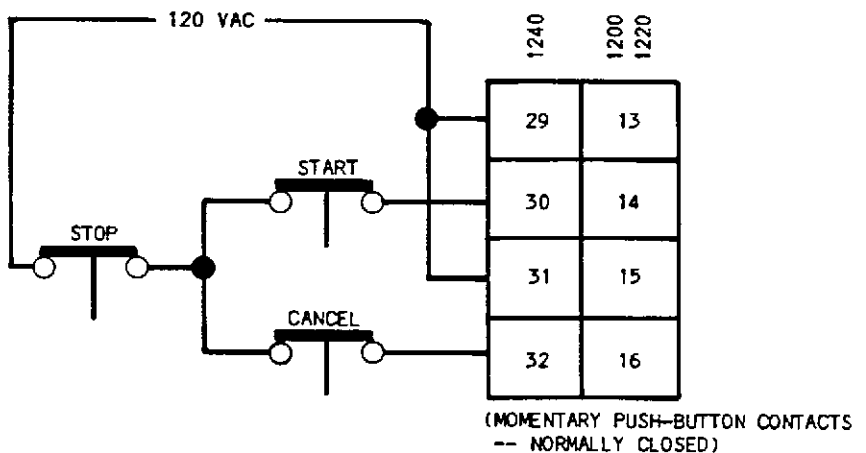

Figure 13. Typical Wiring for Push-button Input Relay (Remote Models Only)
**2** Connect the control cable to the feed valves (or other devices). Refer to Figure 19 for typical wiring of input and output relays. See Appendix B for PLC state diagrams. For simple operator push-button type input, see Figure 13, page 16.